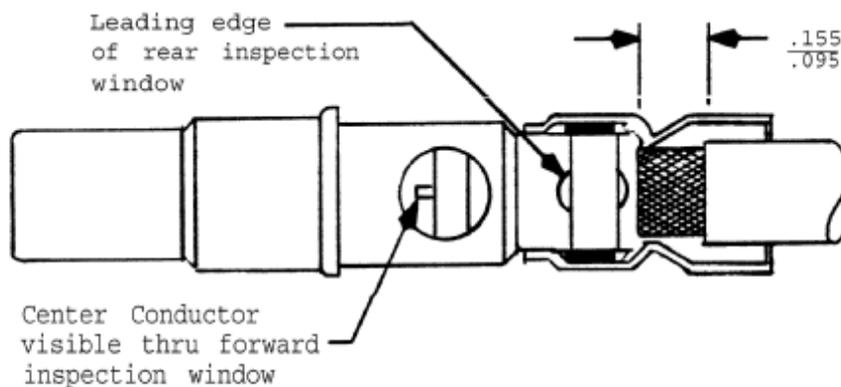

FIGURE 5
5.2.1 Slip the contact carefully over the end of the prepared cable, and gently push the contact onto the cable until the shield braid leading edge is lined up with leading edge of the rear inspection window as shown in Figure 5.
5.2.2 Inspect for proper insertion (see Figure 5).
The distance from the rear of the contact body to the cable jacket insulation should be as shown on Figure 5.